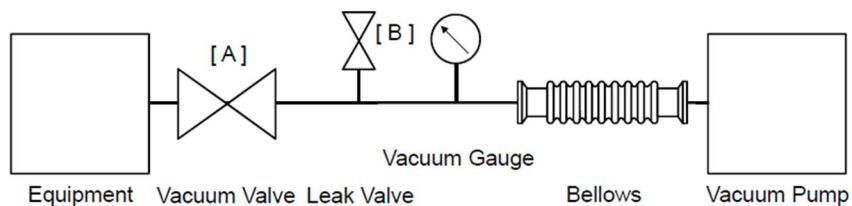

Fig. 16 Connection with Vacuum System for PVD-180-H, PVD-360-H
- 6) Installation of a vacuum valve, a leak valve and a vacuum gauge between the equipment and the vacuum pump is required for PVD-180-H and PVD-360-H as shown in Fig.16. When the pump stops, shut the vacuum valve [A] to keep the equipment in vacuum, then open the leak-valve [B] and let air into the pump to prevent from counter-flow of the rotary vacuum pump oil in the pump.